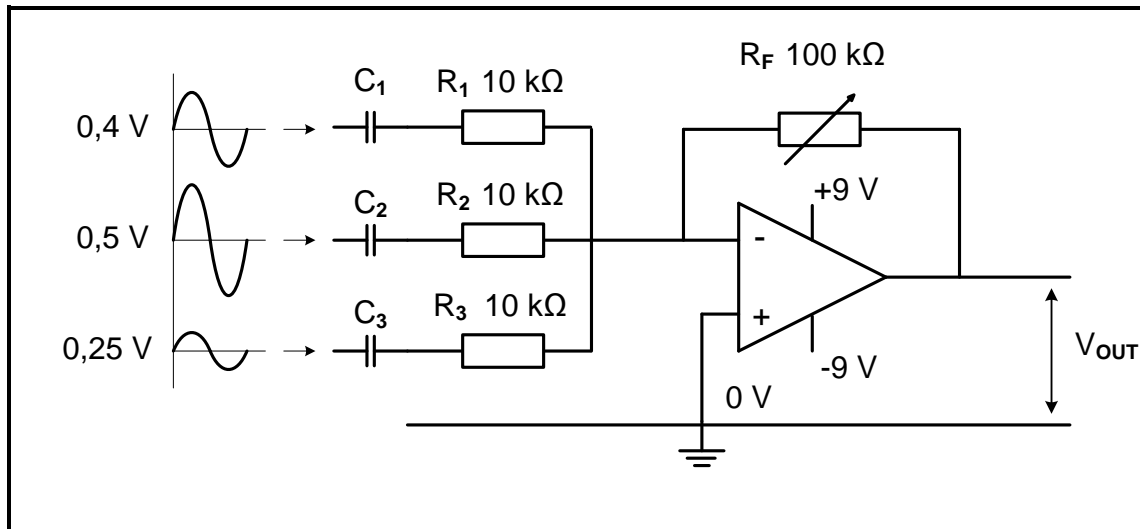

FIGURE 3.5: SUMMING AMPLIFIER
3.5 Refer to FIGURE 3.5 below and answer the questions that follow.